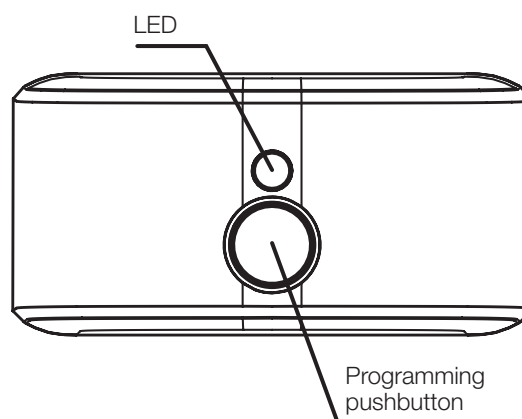

Figure 1: Localization of the programming button
Memorisation and programming can be done using the programming pushbutton (Figure 1) on the BiDi-Shutter.
1.	Press and hold the programming pushbutton (Figure 1).
2.	Release the programming pushbutton (Figure 1) when the LED glows with red (1 st position).
2.	Release the programming pushbutton (Figure 1) when the LED glows with orange (2 nd position).